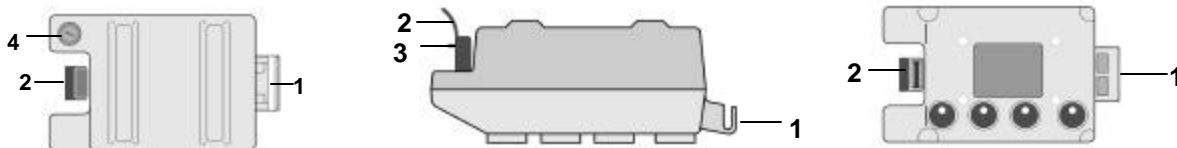

Figure 1-6. SEB42-1 Battery
c. SEB42-1 Battery. The SEB42-1 battery (Figure 1-6) is a 24V battery that contains 20 rechargeable NiCd-cells, mounted in a series parallel configuration. The battery clamps to the rear of the gyroscope with a hinge (1) and a latch (2). The latch is equipped with a safety catch (3), which must be depressed to release the latch. The battery is surge protected against charging or potential short circuiting by a fuse (4).